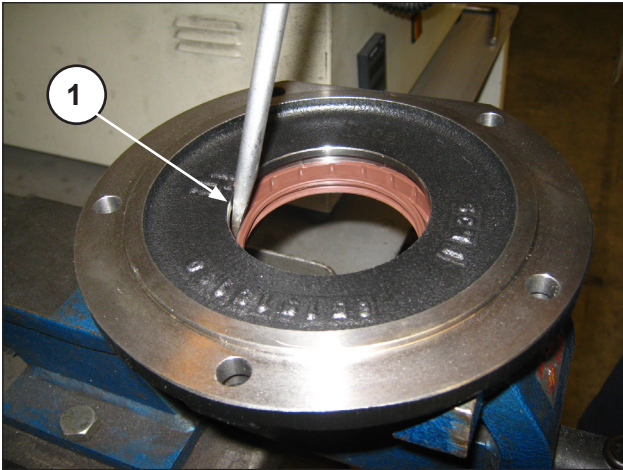

Fig. 11
Remove the radial seal ring (pos. ①, Fig. 11).